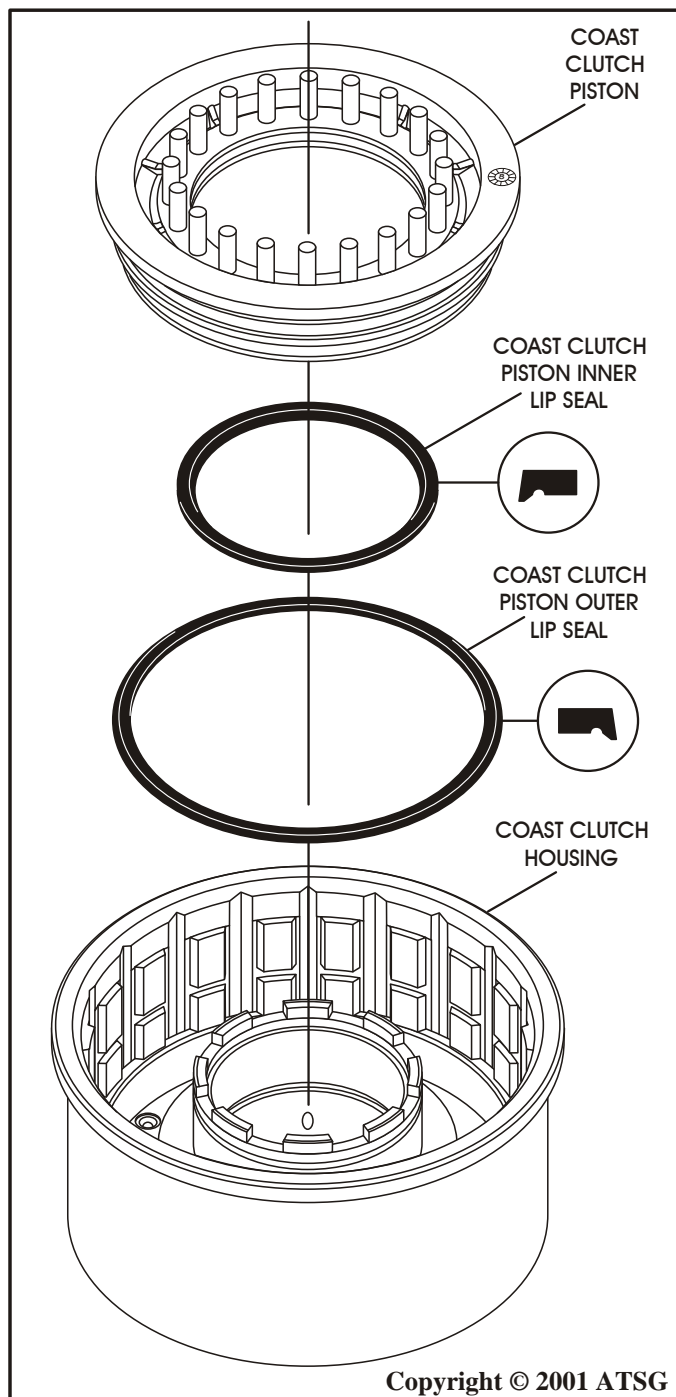

Figure 64
5. Install a new inner lip seal into the groove in the coast clutch piston, with the lip facing down, as shown in Figure 64.
6. Install a new outer lip seal into the groove in the coast clutch piston, with the lip facing down, as shown in Figure 64.